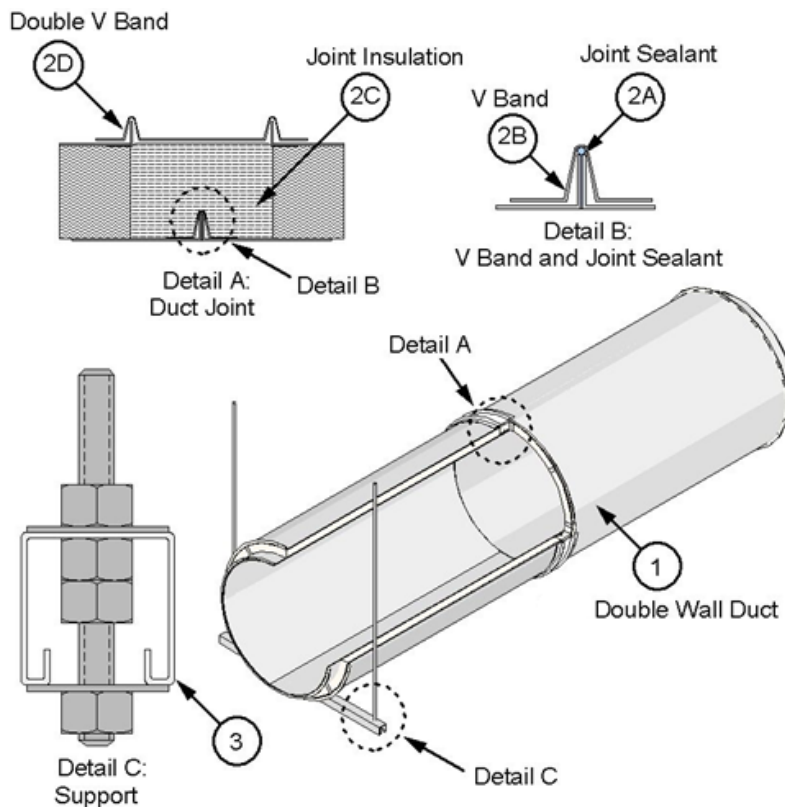

Figure 1. Double Wall Duct and Horizontal Support
B. **V BAND –** Use the supplied V band (see Figure 1). Place the loose V band, filled with joint sealant (Item 2A), over one of the inner duct flanges. Join to the other inner duct flange with the continuous bead of joint sealant (Item 2A) and rotate slightly to ensure complete coverage of joint sealant (Item 2A) on flanges. Ensure that the flanges are located within the V band and that the V band hardware is not at the bottom side of a horizontal duct. Tap the V
- D. **DOUBLE V BAND** – Use the supplied double V band (see Figure 1). Place double V band with outer shell flanges seated in the V band; tighten integral 1/4-20 hardware to 40-60 in.lbs.
- A. **HORIZONTAL SUPPORTS** – Support the pre-fabricated grease duct (Item 1) using min. 12 GA, 1-5/8 in. x 1-5/8 in. Unistrut® channel or 2 in. x 2 in. x 1/4 in. steel angle as the supporting cross-member and two, min. 1/2 in. diameter, threaded steel rods connected using Grade 5 hex nuts and 1/2 in. hardened washers (see Figure 1, Detail C). Connect the threaded steel rods to the bottom of the floor assembly using an attachment method designed to carry the weight of the pre-fabricated grease duct (Item 1) under a fire load equivalent to ASTM E 119 time-temperature curve for a 2 hour period. Place one threaded steel rod